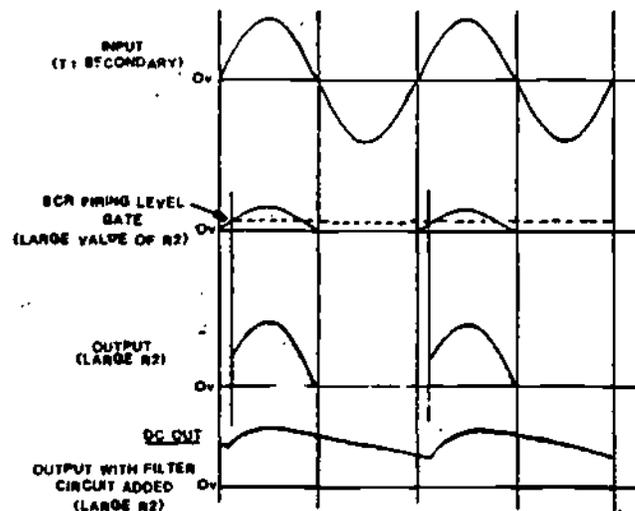

Figure 10
- 15) The waveform shown in Figures 10 and 11 illustrate the effect of different resistance values of R_2 and the corresponding output of the SCR. Notice that a large value of R_2 results in an earlier firing time and that the output is present only during the forward biased positive input cycle. This is reflected by the waveforms 2 and 3 immediately below the input waveform.